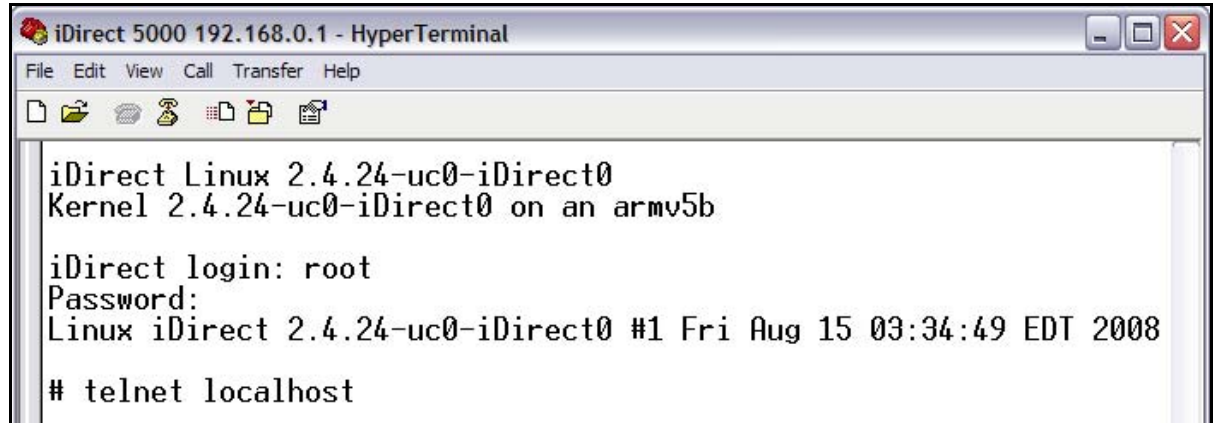

Figure 5. Telnetting to iDirect Application During a Console Session
1. At the Linux prompt (#), enter `telnet localhost` to telnet to the iDirect application (Figure 5).